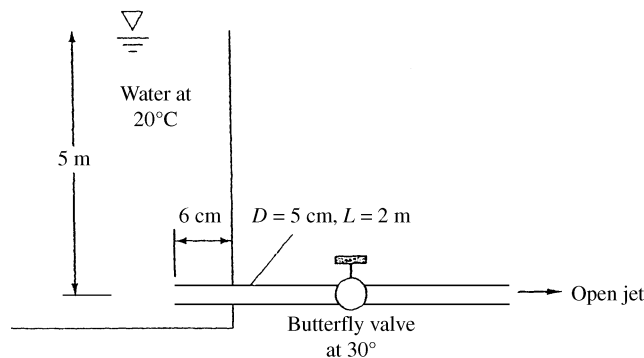

Fig. P6.107
**6.107** In Fig. P6.107 the pipe is galvanized iron. Estimate the percentage increase in the flow rate (a) if the pipe entrance is cut off flush with the wall and (b) if the butterfly valve is opened wide.